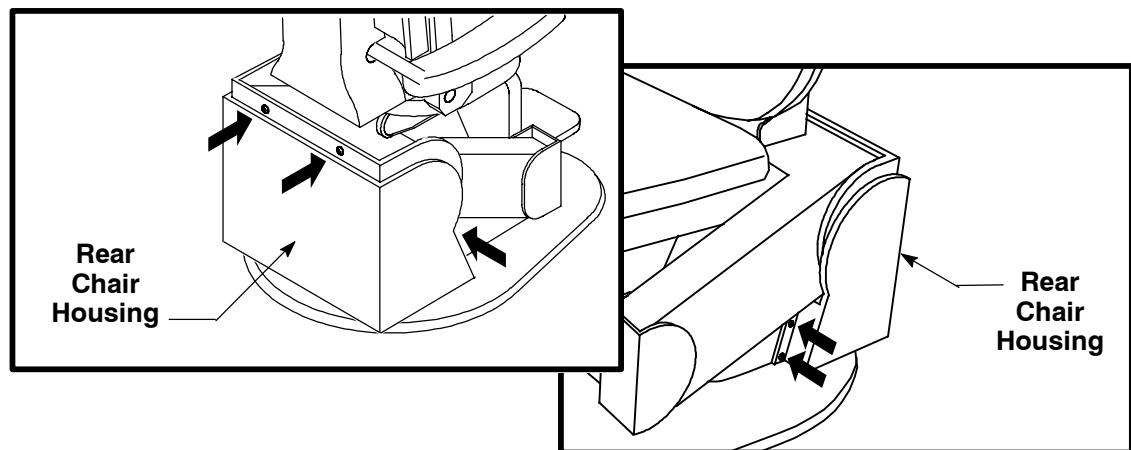

Figure 3-1. Removing the Rear Chair Housing
6. Remove the protective plastic caps, then use the No. 1 Phillips screwdriver to remove the six screws from the rear chair housing. Refer to Figure 3-1.
Refer to Figure 3-1 to remove the Rear Chair Housing.